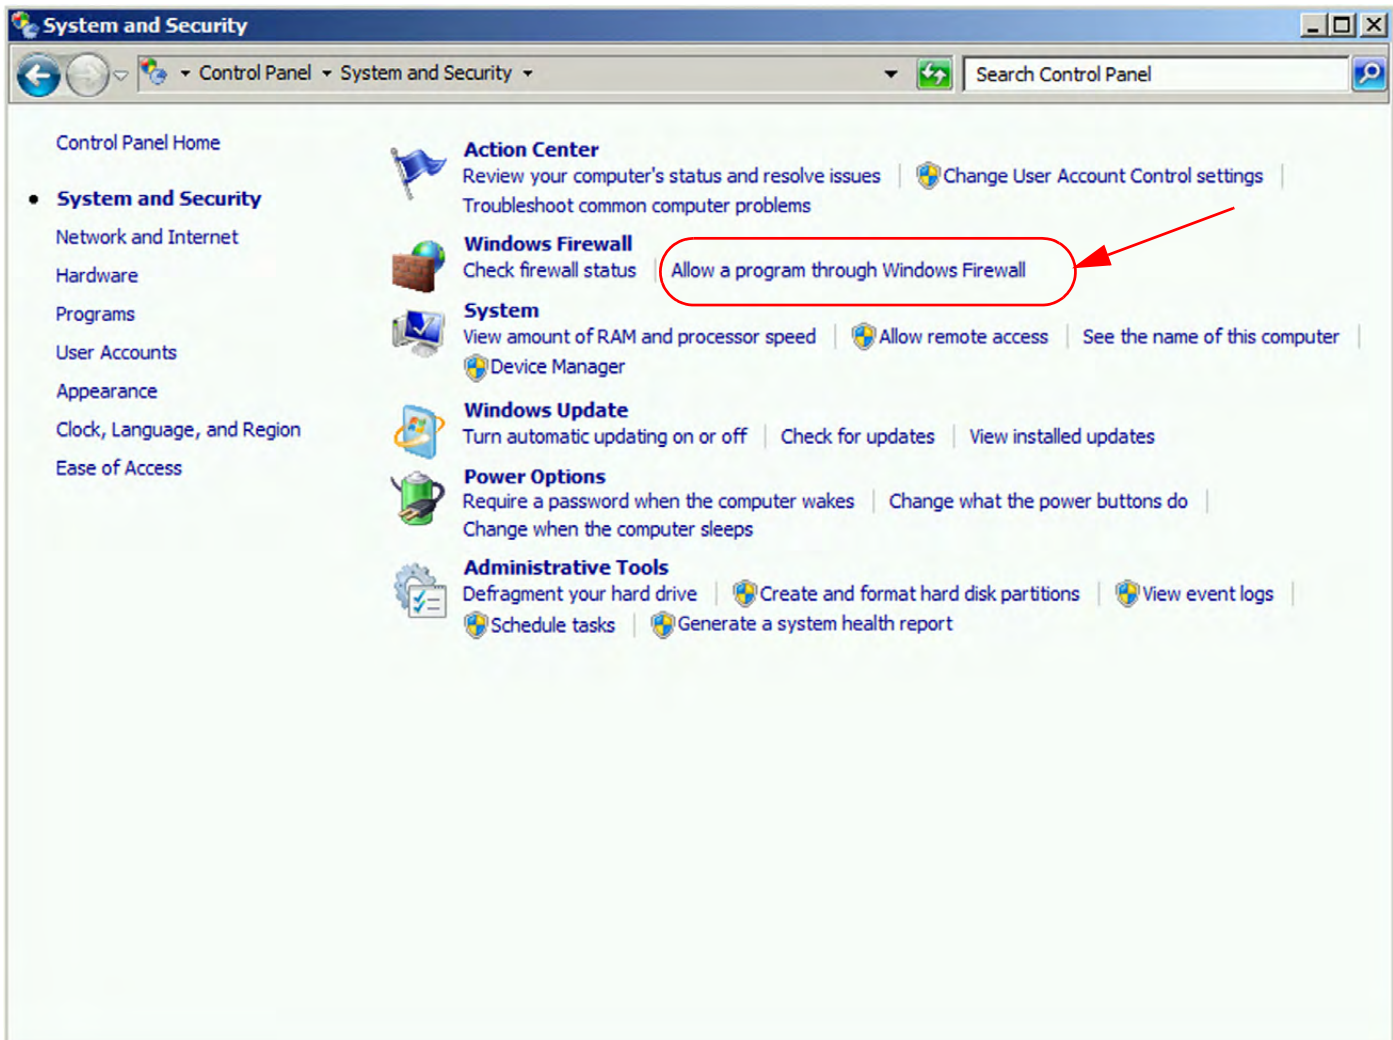

Figure 3.12: Windows Server 2008: Allowed Program through Windows Firewall
3. From the Control Panel -> System and Security screen, select "Allow a program through Windows Firewall". See Figure 3.12.